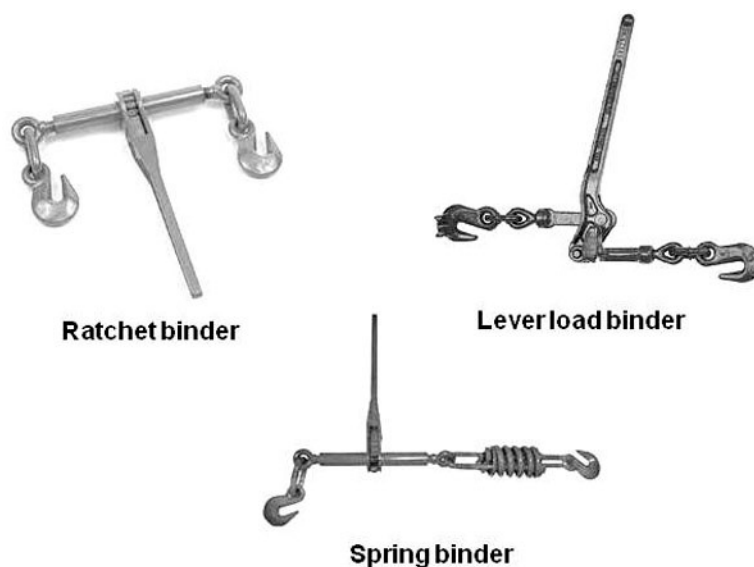

Figure 2-11. Assorted load binders.
When you have the vehicle loaded, secure the mats with two chains across each row. Place wooden dunnage on the mats where the chains cross over to prevent damage to the aluminum matting. Hook the chains securely and tighten them with load binders. Load binders are chain-tightening devices used to help secure loads and are usually made of iron with swivels, two chain hooks, and a lever (fig. 2-11).
When tying down rubber-tired equipment, use the spring binders (fig. 2-11). The reason we use them is due to the bounce created by the tires. The spring lets the machine move without damaging the chains or binders. If you tie a rubber-tired vehicle down without spring binders, the chains tend to loosen and then snap tight during a bounce. This creates a shock load on the chains, which could potentially break a chain creating an extreme hazard. Another way to prevent the shock loading is to block the vehicle up. Simply insert blocks under the axles large enough to take the weight off the tires but not so tall as to increase the vehicles center of gravity (CG). Then, tie the vehicle down as you would for a nonrubber-tired vehicle.